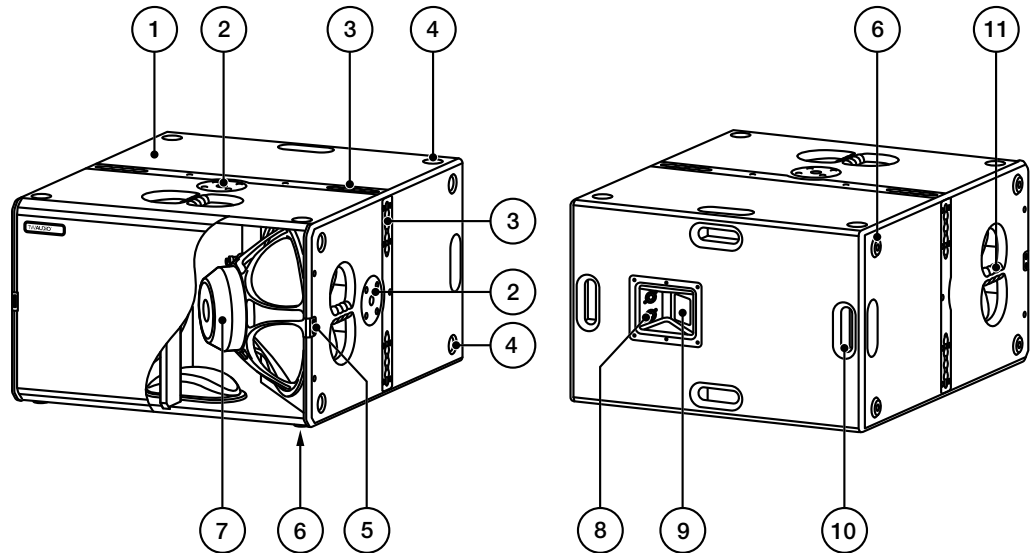

Figure 2.1 - Overview
Make sure that the maximum load of 50kg / 110lbs for the M20 pole mount flange is not exceeded! See figure 2.1 – Item 10.
Please note that the M20 pole mount flange is not designed for side loads! See figure 2.1 – Item 10.
Please note that only centered loads should be placed on the M20 pole mount flange – see figure 2.1 – Item 10.
Note that the VERAS30 loudspeakers are mechanically connected. This is done via the rigging tracks (see figure 2.1 - pos. 3)!
Note that the VERA S30 loudspeakers are mechanically connected. This is done via the lateral rigging tracks (see figure 2.1 - pos. 3)!